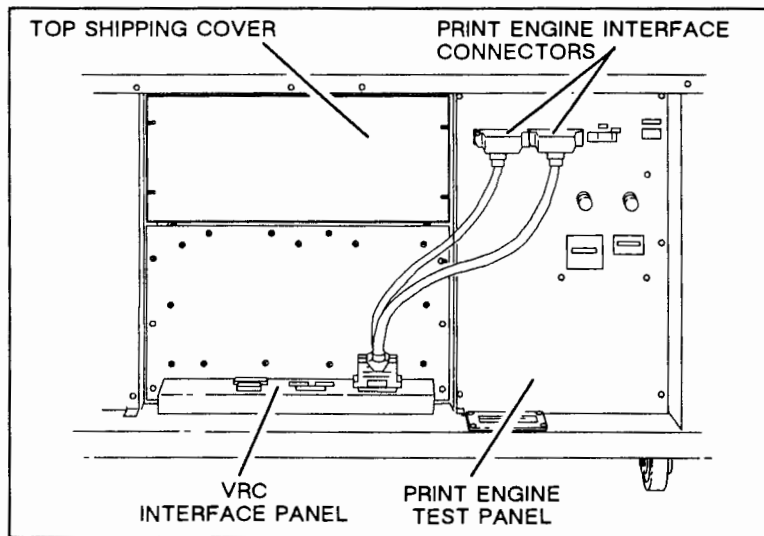

Figure 2-11. VRC to Print Engine Cables
- k. Attach the L-shaped end of the cable to the CTRL I/F connector on the Test Panel. Secure the connector using the screws provided. The result of attaching the VRC to print engine interconnect cables is shown in Figure 2-11.